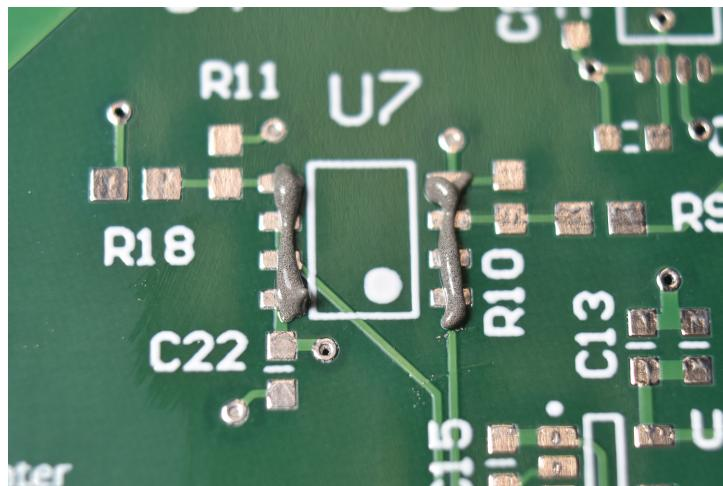

Figure 5: Solder paste applied for an SOIC-8 package IC.
2. Place a small amount of solder paste onto each of the component’s pads as shown in Fig. 5. For component packages with pins that are close together, too much solder paste often results in shorted pins, while too little paste often results in no connection. Try to dispense the same amount of solder paste onto each pad.